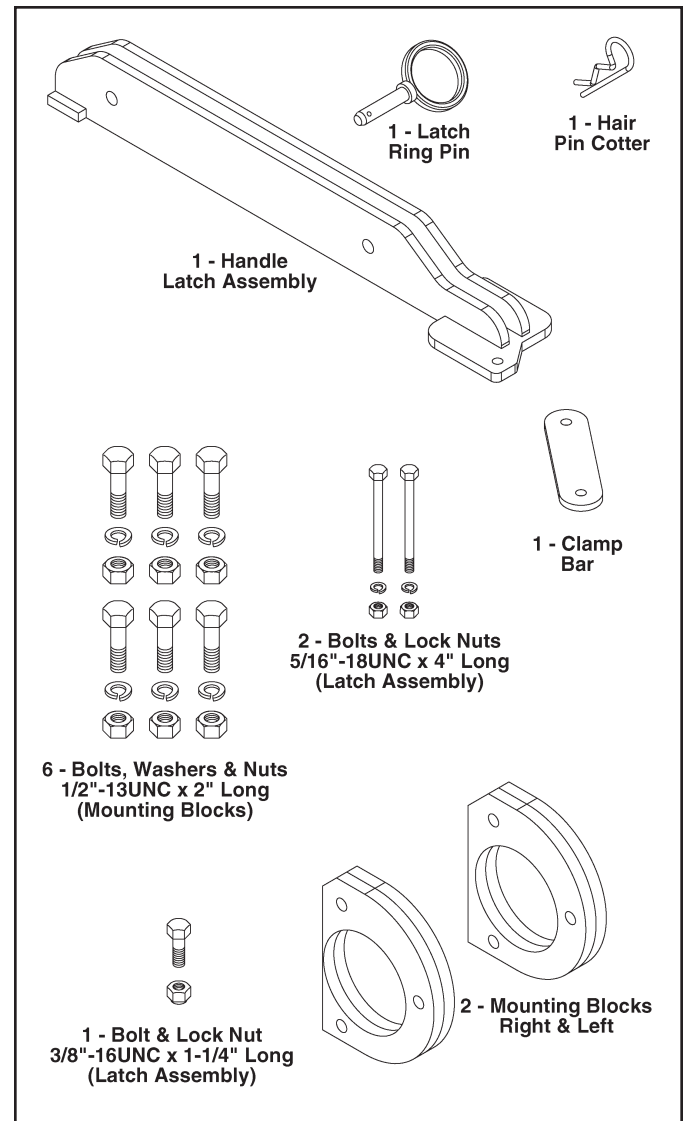

Figure 1. Hardware Box
1. The Scarifier Installation Kit was shipped in two items; scarifier bar assembly and hardware box. See Figure 1 for items in the hardware box. If any parts are missing from the hardware box, please contact your dealer immediately.